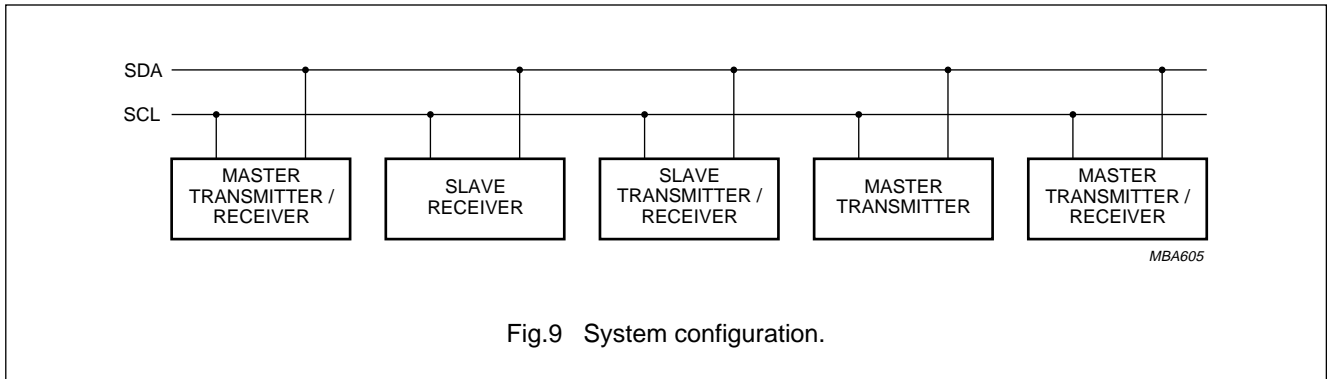

Fig.9 System configuration.
8.3 System configuration (see Fig.9)